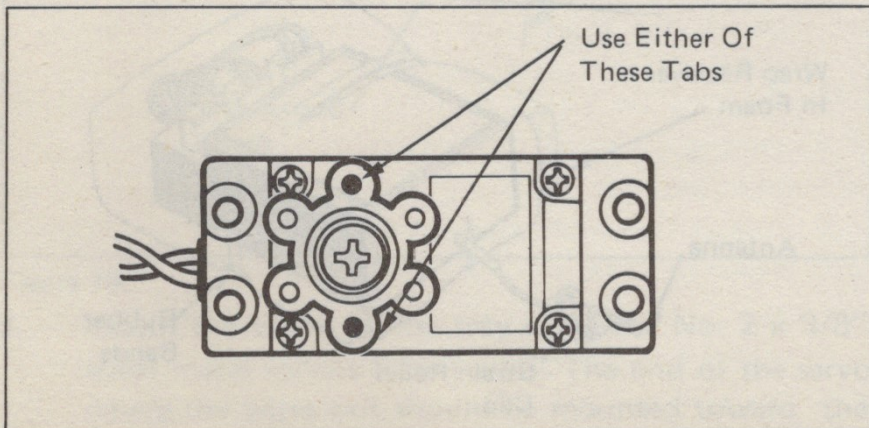

Figure 14.
1. With the transmitter and receiver turned on and the servos plugged in, remove the screw that holds the output wheel in place. Now lift the wheel off and rotate the wheel until it is in the position shown in Figure 14. The spline has 23 teeth and the wheel may have to be put on and off a number of times while rotating to achieve this position. When it is reached, replace the screw and tighten snugly. Don't forget these screws. Many planes have crashed simply because their owners forgot to tighten them or left them out.